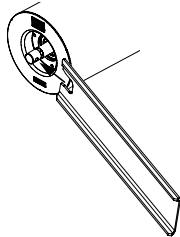

Figure 4
- ⑤ Use the provided spanner wrench to rotate the idler until the holes in the idler match up with the vertical holes in the idler mounting bracket as seen when looking straight up into the case (see Fig. 4).